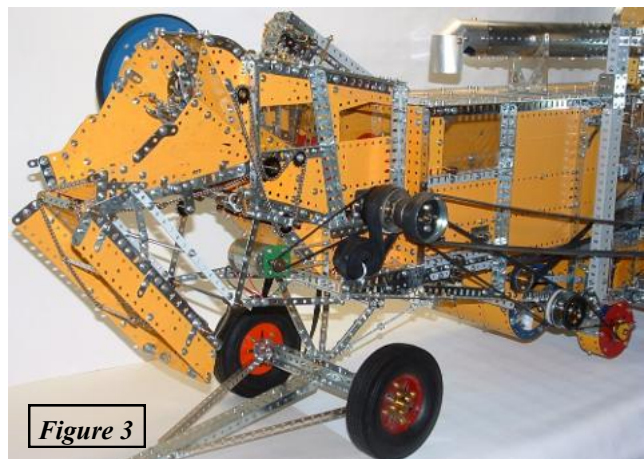
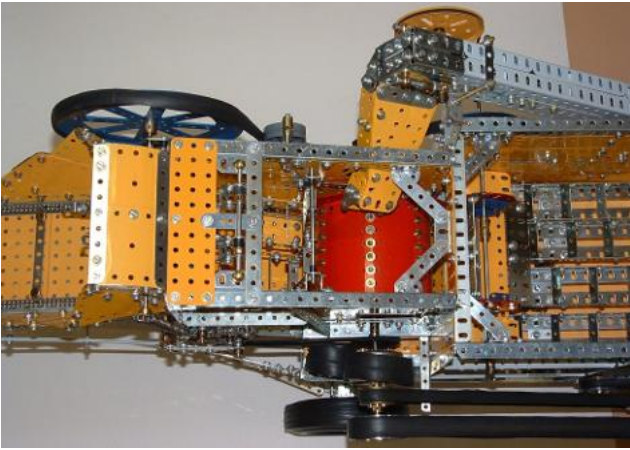
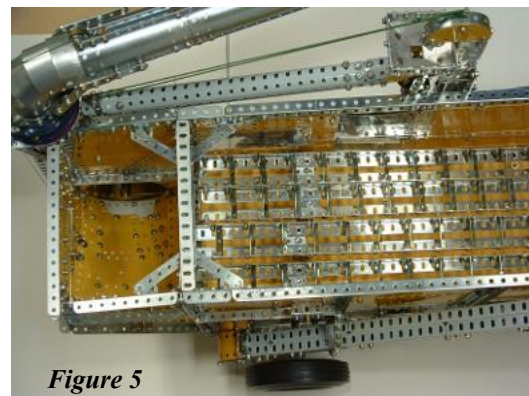
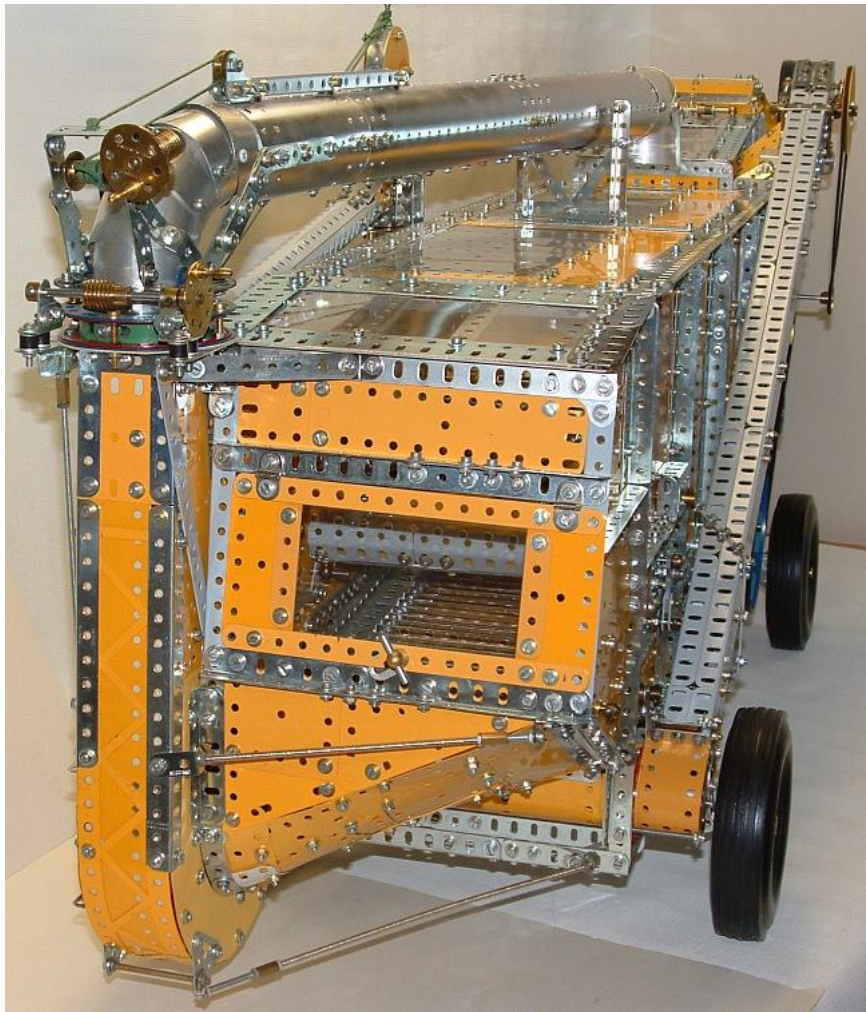

Figure 3
Figure 4
Figure 5
Figure 6
cutters by a conveyor constructed from 7H Narrow Strips (235b) fixed to Sprocket Chain (94) by brass split fasteners (similar to those used on Dredger Buckets). The model follows the prototype by having the front section of the carrier fold down for transport of the machine (Fig. 3). This is achieved by a system of arms and levers which requires the rear portion to pivot on an Axle at its back end, the Axle also carries the Sprockets which drive the conveyor Chain.
The sheaves are guided under the cylinder by the twine cutters (represented by Pawls without boss which have a slicing motion) and reciprocating arms above, and by a reciprocating pan below. The cutters and the arms are driven by the 6" Pulley (Fig. 2) and it is actually the correct scale. The built-up cranks moving the pan can be seen above the electric motor in Fig. 3.
The cylinder (red in Fig. 4) is mounted on the Axle driven by the electric motor (Fig. 3) and serves to release the grain from the straw as the sheaves pass beneath it. The cylinder is 4" wide and consists of seven pairs of Curved Plates (200) bolted to two 4½" Circular Girders (*Ashok*). A beater is located to the rear of the cylinder (right side of Fig. 4) to further release the grain. The straw falls on the front end of the straw walkers and the grain passes through to the reciprocating grain pan below the walkers.
Each of the four straw walkers consist of two 49H Angle Girders (7) linked by seventeen Double Angle Strips (48). The cranks to move the straw walkers were constructed following a photo posted by John Evans on Spanners in December 2004. There are four linked cranks near the front of the straw walkers and four near the rear which are driven (Fig. 5). Each straw walker is 90 degrees out of phase with its neighbours, and together provide a fascinating motion.
The straw from the straw walkers, bits from the grain pan, and chaff from the OSB all fall into the straw blower chamber (Figs. 5 & 6) and are expelled by a large fan through the straw blower pipe. The fan consists of four Triangular Flexible Plates (224) each bolted to 5H Narrow Angle Girders which are bolted to a 3" Sprocket Wheel and is housed in the circular section seen the lower right of Fig. 1 and lower left of Fig. 2. The material is blown up the chute and into the straw blower pipe which can be raised and/or turned to any azimuth, and consists of a Boiler (162b) and two 9" Long Boilers (Ashok 162c). The flexible elbow in the blower pipe (Fig. 6) is constructed from thin aluminum sheeting as is the deflector at the other end of the pipe (Fig. 3). To have the fan actually blow air, holes were covered with art paper and with aluminum tape.
The assembly is stretched to give an auger about 8 1/2" long. The auger is mounted on a suitable Axle and one end is bolted to a Bush Wheel fixed to the Axle. The other end of the auger is fixed to a Short Crank (Exacto 62d). The auger sits in a trough constructed from curved Flexible Plates. The grain auger is located behind the chaff blower and empties the grain into an impeller fan, which drives the grain up the chute, which can be seen on the right edge of Fig. 3. The grain falls into a hopper at the top of the thresher (Fig.5) and can be directed by means of a circular chute into the box of a wagon or truck.
The return auger empties its material into the lower end of the return elevator which can be seen running diagonally up along the right side of the thresher (Fig. 2). The return elevator is constructed using Exacto Girder Frames, which are held together only by long Bolts along the centre line of the elevator. Material is moved up the elevator by small buckets 1-1/16" long cut from plastic shelf edging which are fixed to Sprocket Chain (94) by brass split fasteners. Aluminum tape is placed along the lower half of the Girder Frames and the elevator is quite effective at moving material. The upper end of the Chain is driven by a Thin 25 tooth Pinion (25c) fixed on an Axle journalled in Slide Pieces (50), which allows tension adjustment (Fig. 4). The Chain drives another 25c at the lower end of the elevator which in turn drives the auger.
Tires used on the model came from an unknown source, are solid rubber 5 3/4" in diameter, and fit a 3" Pulley. The tires rotate on Large 5/16" Axles which are held in a built-up box girder at the front of the thresher (Fig. 3). The box girder pivots on a Threaded Pin (115a) which is held in a Collar which can pivot from side to side allowing the wheels to adjust for un-level terrain. The 115a is fixed to the center hole of a 6H Wheel Disc (24c) which is fixed by Strips and Narrow Strips to the underside of the lower frame.